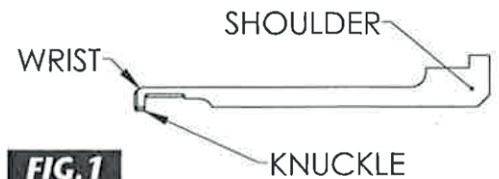
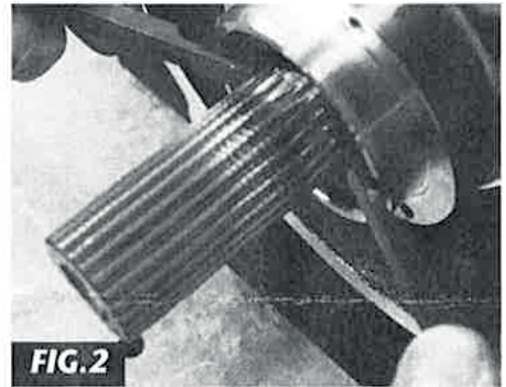

FIG. 1
FIG. 2
1. Align one wrist of puller arm with the crank shaft, insert puller arm knuckle into seal and rotate arm toward crank shaft. The knuckle of puller arm should engage rear of seal. End of puller arm should contact bearing spacer. The knuckle of puller arm is the smaller end flange. **Fig. 1 & Fig. 2**